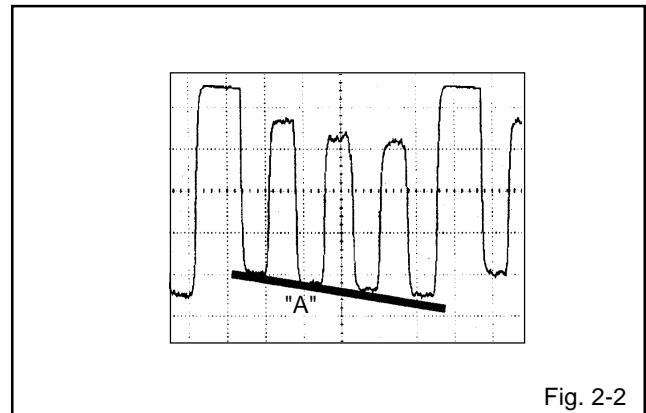

Fig. 2-2
4. Press the VOL. UP/DOWN button on the remote control until the section "A" becomes a straight line (**Refer Fig. 2-2**).